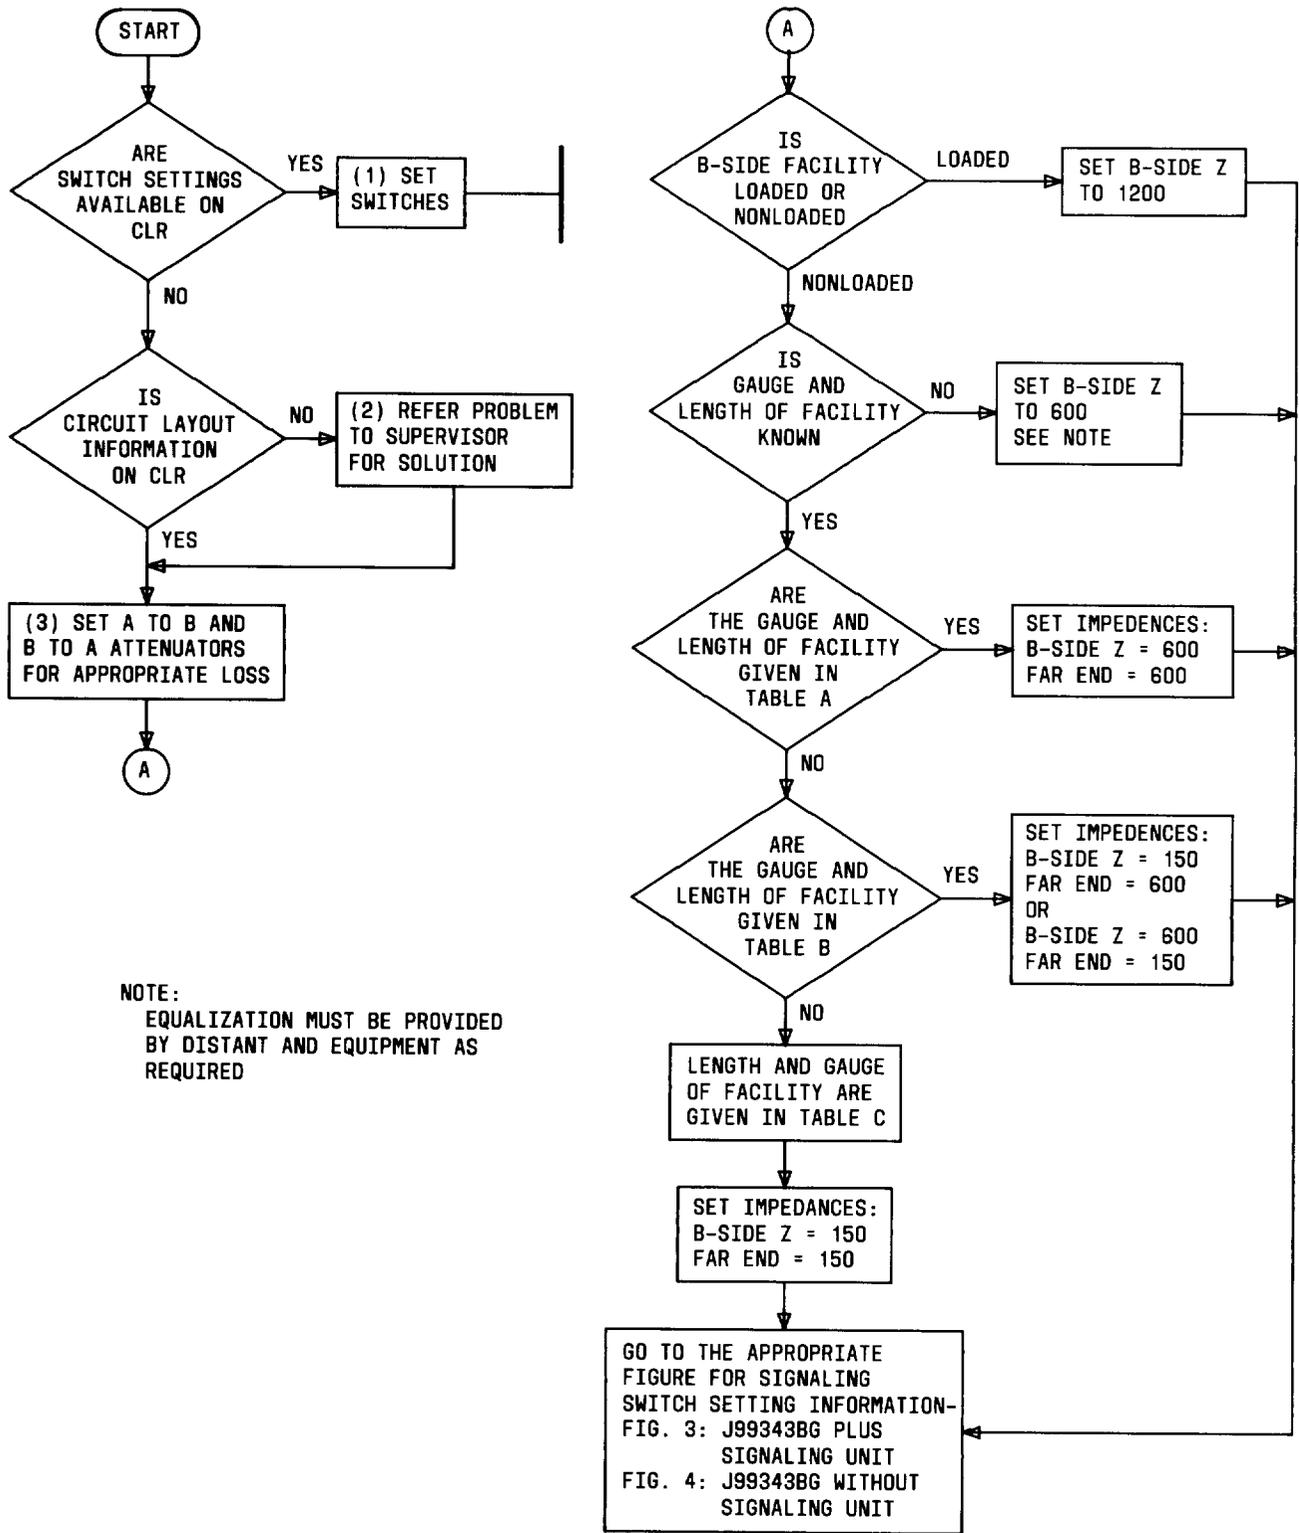

Fig. 2—Procedure for Setting Transmission Controls of J99343BG Unit
2.03 The switches for a particular function are operated when actuated either toward the respective designation or as indicated on the switch. Figure 2 and Tables A, B, and C provide procedural information to aid in setting the transmission controls of the J99343BG unit. Figures 3 and 4 provide information in setting the signaling switches with and without the companion signaling unit, respectively, of the J99343BG unit. For more descriptive information on the unit controls see Section 332-912-105.